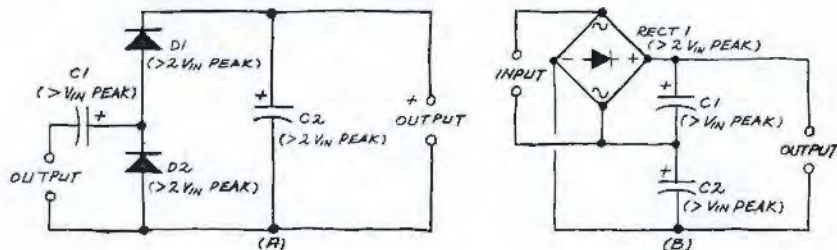
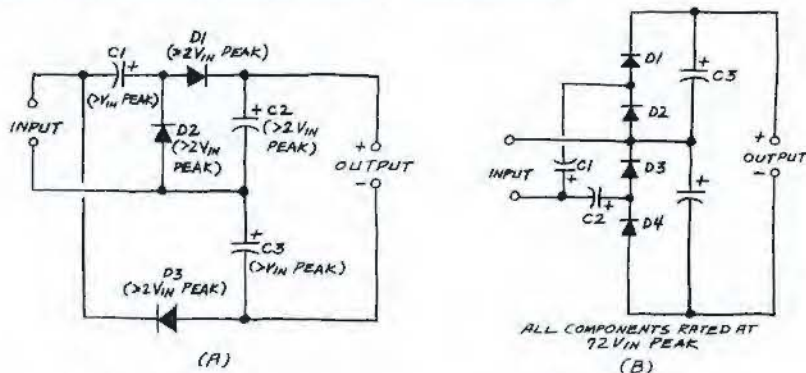

Fig. 2. Two different ways to make a voltage divider.
Fig. 3. Full-wave voltage tripler and quadrupler circuits.
Figure 2 shows two other ways to make a voltage doubler. The cascade doubler (A) isn't as efficient or as well-regulated as either the traditional or bridge doubler, but it can easily be expanded to many stages. (Component voltage ratings are given in parentheses.) It's possible to obtain outputs of many thousands of volts from multistage cascade voltage multipliers. Figure 3 shows both a full-wave voltage tripler (A) and quadrupler (B).